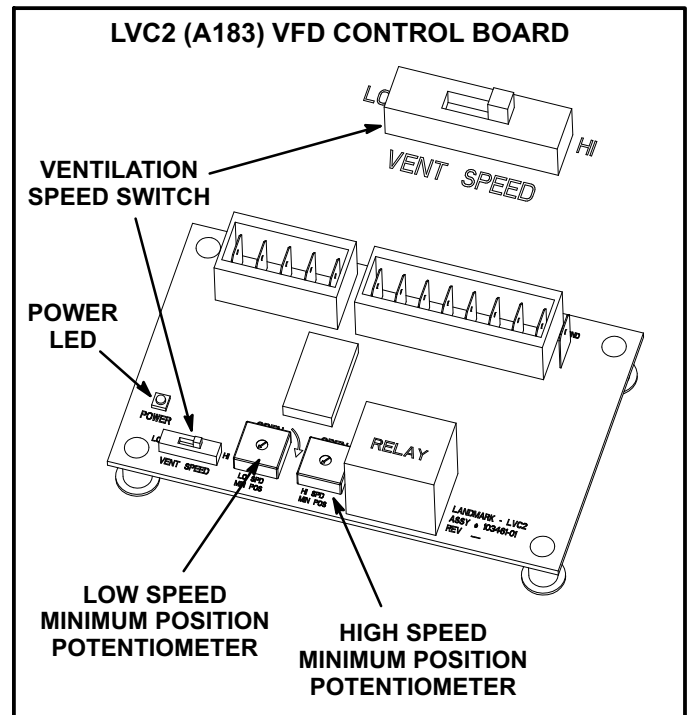

FIGURE 39
To save energy during ventilation, the blower speed can be set to low. This is accomplished by changing the ventilation speed switch on the VFD control board to "LO". See figure 39.
To maintain required minimum ventilation air volumes when the unit is in the occupied mode, two minimum damper positions must be set. A high and a low speed potentiometer are provided on the VFD control board to adjust minimum damper position. See figure 39.
- 5- Check the power LED on the board. See figure 39.